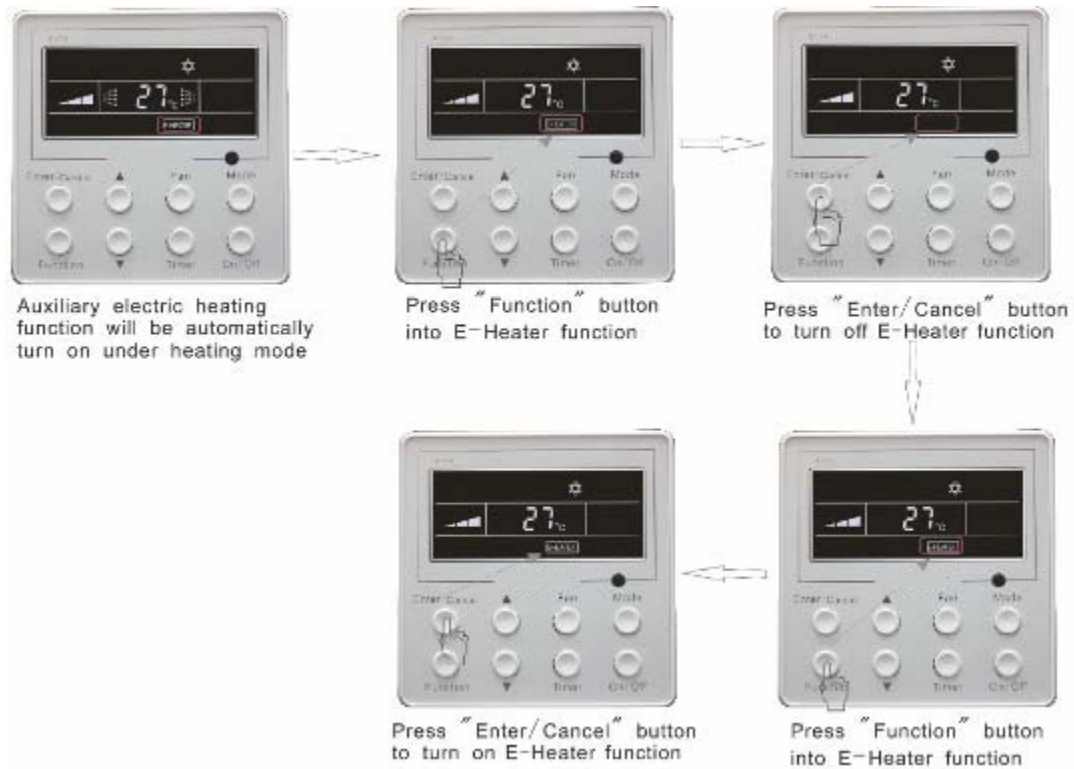

Fig. 5.11 Auxiliary Electric Heating Function Setting
The setting of this function is shown as Fig.5.11 below:
1. E-heater can not be set in cooling, dry and fan mode, E-heater mark won't be displayed. The setting is shown in Fig.5.11.